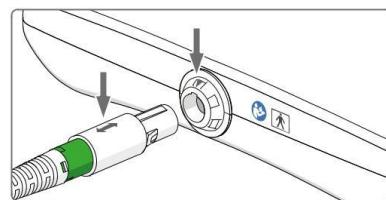

Figure 17. Connect the master cable to the WoundEL® device
2. Connect the master cable to the WoundEL® device: insert the round plug of the master cable into the socket, without twisting, until there is an audible click. The arrow on the cable connector must be pointing upwards, see figure 17. (To disconnect the master cable, pull the connector out without twisting.)